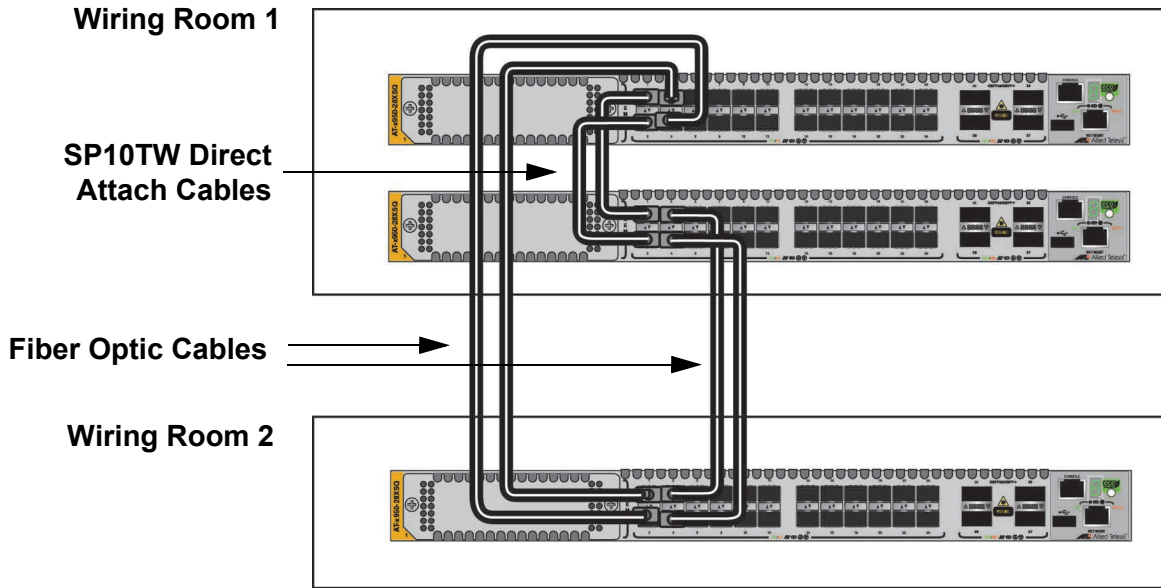

Figure 40. Unsupported Trunk with Mixed Cables
- ❑ The cables in a trunk must be all the same type: They can be all fiber optic cables, direct attach cables, or copper cables. Trunks cannot contain different types of cables. The trunk in Figure 40 on page 96 is unsupported because it has both fiber optic and direct attach cables.